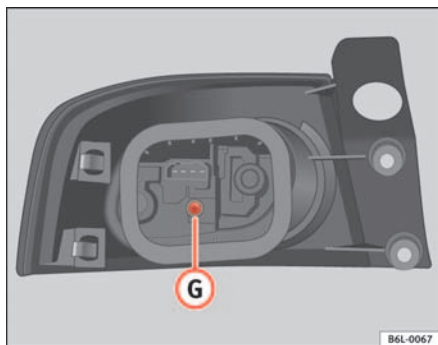

Fig. 158 Rear lights on the bodywork
- Unscrew the bolt **G** ⇒ fig. 158.